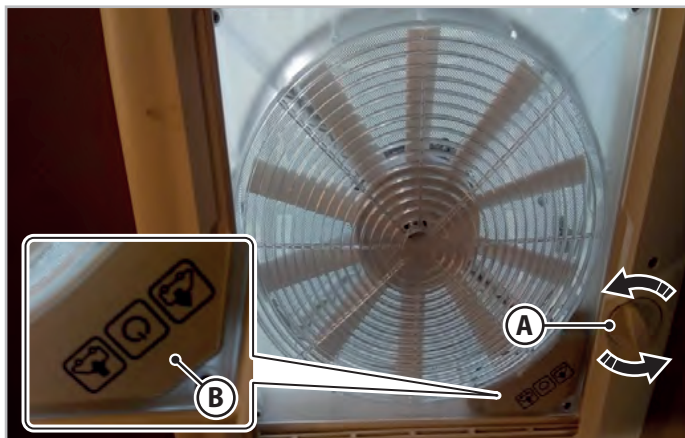

Fig.6.9 - Skylight with handwheel
Turn the handwheel (**A** - Fig. 6.9) in either direction to raise (open) or lower (close) the skylight. The opening of the skylight can be adjusted to any intermediate position.
To use the ventilation and extraction function, open the skylight with the handwheel (**A** - Fig. 6.9) and select the ventilation function with air in (IN) or out (OUT), using the key (**B** - Fig. 6.9).